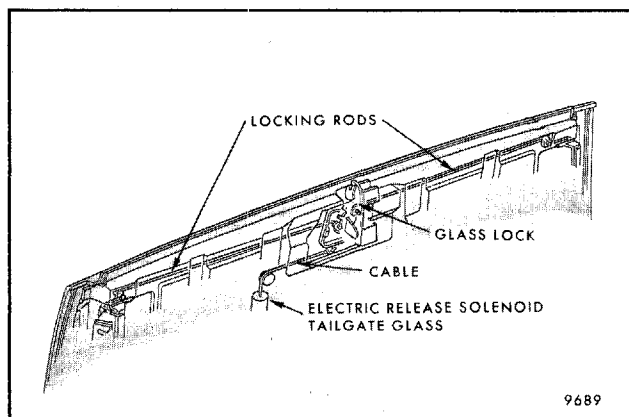

Fig. 7-116 - Tailgate Glass Lock, A-35 Style
3. Disengage right and left locking rods (and glass release cable, if so equipped) Figure 7-116.